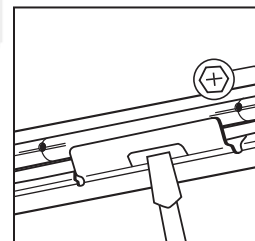

Figure 4
Step 2. Slide fixture along bar hangers into desired location. Use locking screws or slot to secure (Fig. 4).